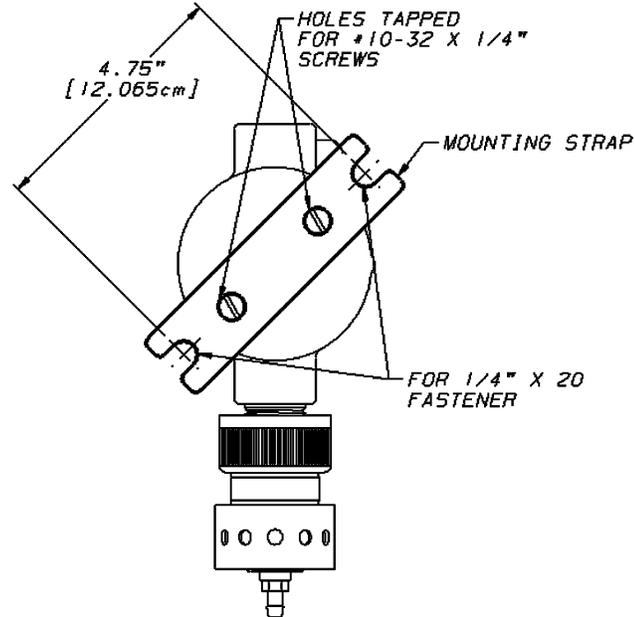

Fig. 5 Remote Sensor Mounting Method
- can also be mounted with the mounting strap (P/N 655700); see Fig. 5 "Remote Sensor Mounting Method".
- These contacts are open when the instrument horn is OFF or not selected for operation (see Fig. 5 "Remote Sensor Mounting Method" for terminal block (TB9) location).